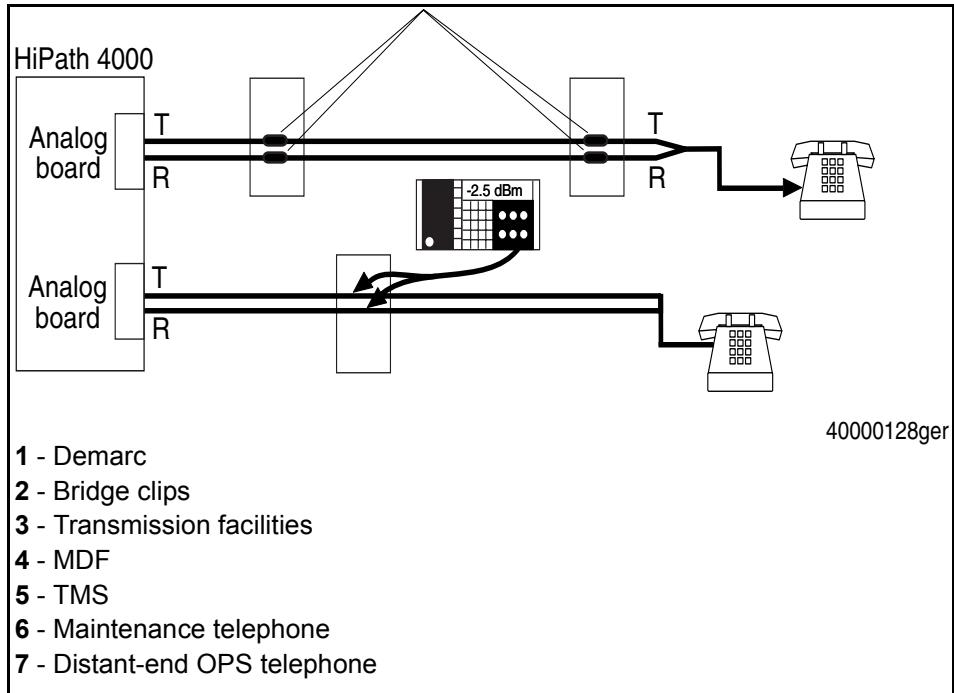

Figure 3 Test setup for measuring ERL and SRL on OPS lines
4. Connect the TMS to the maintenance telephone port (Figure 3).